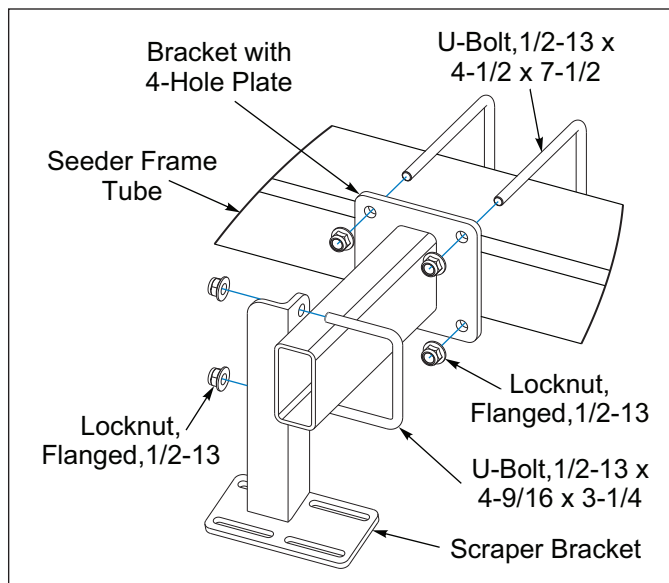

Figure 2-49: Scraper Brackets
3. Attach the Scraper Brackets to the Bracket Tube with a 1/2-13 x 4-9/16 x 3-1/4 U-Bolt and Flange Locknuts. Do Not tighten at this time. See Figure 2-49.